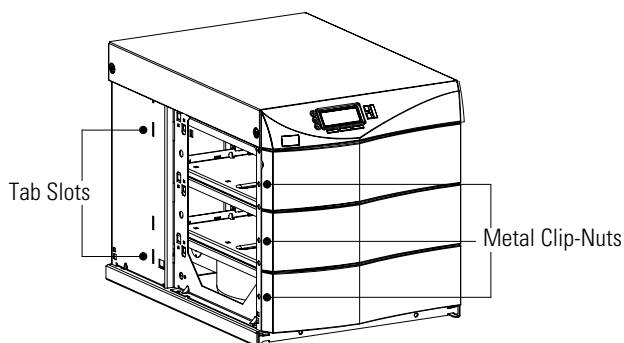

Figure 9. Metal Clip-Nut and Tab Slot Locations
4. Install three metal clip-nuts onto each side flange (6 clip-nuts on 6-slot cabinets) along the front of the UPS cabinet (see Figure 9).
Insert the two offset tabs on the rear edge of the ear into the matching tab slots on the cabinet side frame (see Figure 9). Pivot the ear forward, until it is flush against the UPS cabinet side frame. Secure each ear with three $1/4$ -20 \times $1/2$ " Phillips-head bolts, screwed into the metal clip-nuts installed in Step 4.